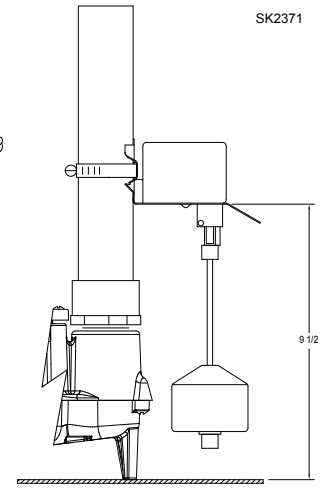

Figure 3.4
- 3.2) Attach float to discharge pipe as shown in Figure 3.4.